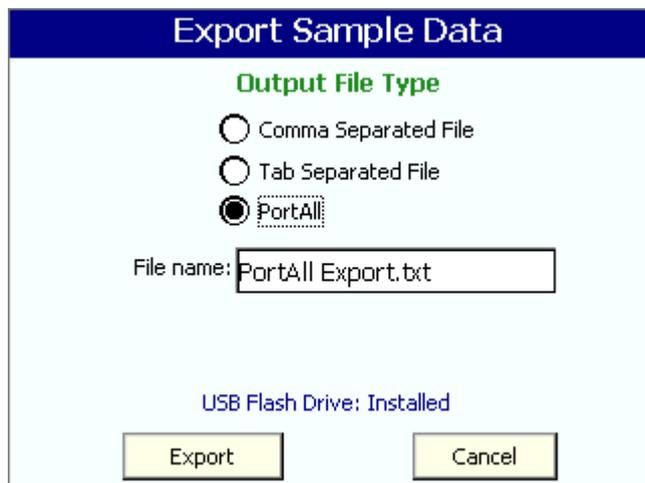

Figure 24 Export Sample Data screen from MET ONE 3400s
2. From the MET ONE 3400 counter user interface software, press **EXPORT** from the main menu. The Export Sample Data window opens (Figure 24).
- Data is added to PortAll (Figure 24) (MET ONE 3400 series specific) and then displayed in the data grid.